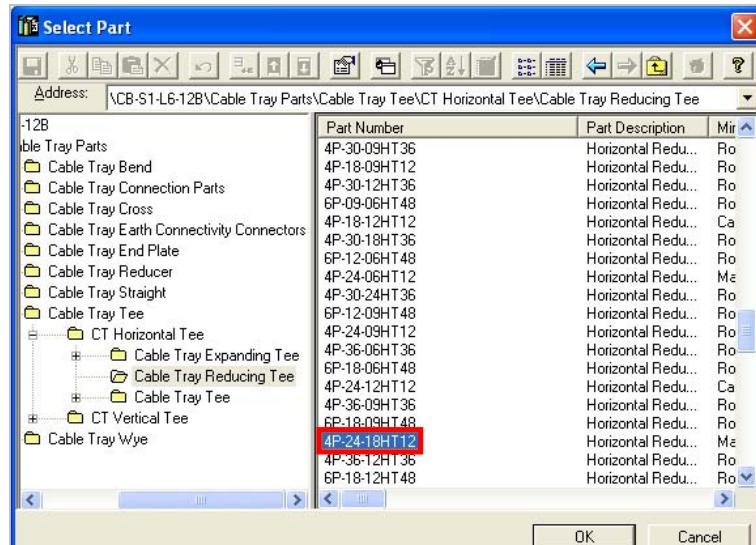

Figure 6: Select Part Dialog Box
15. The **Select Part** dialog box appears. Expand the node **CB-S1-L6-12B\Cable Tray Parts\Cable Tray Tee\CT Horizontal Tee\Cable Tray Reducing Tee** in the left pane of the **Select Part** dialog box. Select the **Part Number 4P-24-18HT12** from the right pane as shown in Figure 6.